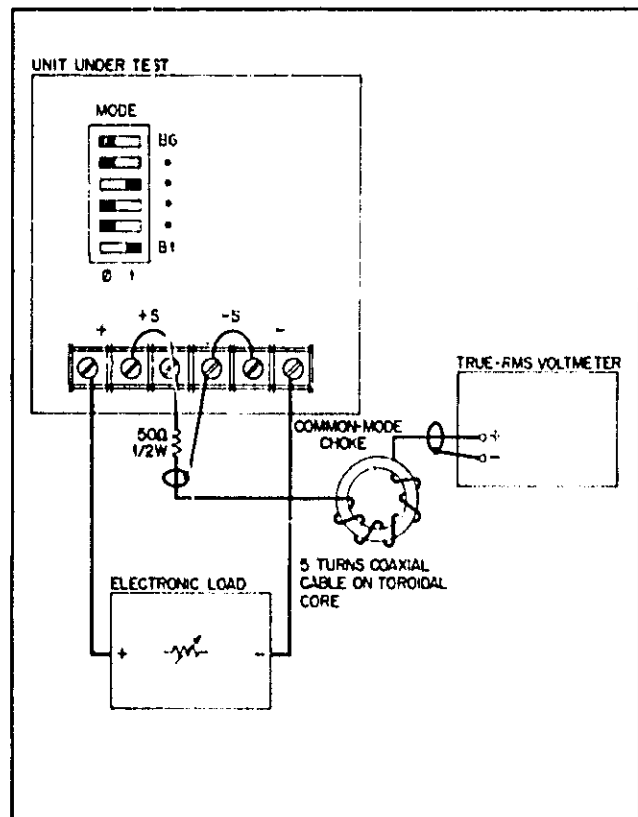

Figure 5-6. RMS Measurement Test Setup, CV PARD Test
5-36 RMS Measurement Procedure. Figure 5-6 shows the interconnections of equipment to measure PARD in V_{rms} . To ensure that there is no voltage difference between the voltmeter's case and the unit's case, connect both to the same ac power outlet or check that the two ac power outlets used have the same earth-ground connection.
- Connect the test equipment as shown in Figure 5-6. Operate the load in constant resistance mode (Amps/Volt) and set resistance to maximum.